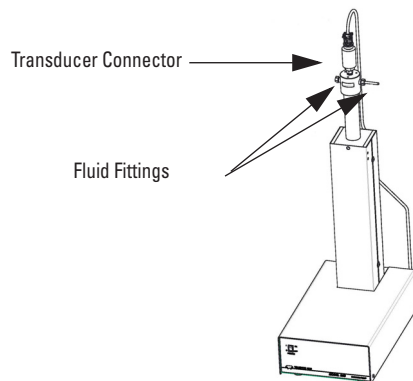

Figure 2-13 Fluid fittings
2. Remove the fluid fittings from the sides of the pump cap (Figure 2-13).
7. Disconnect the transducer connector from the top of the transducer (Figure 2-13) and position the cable out of the way.